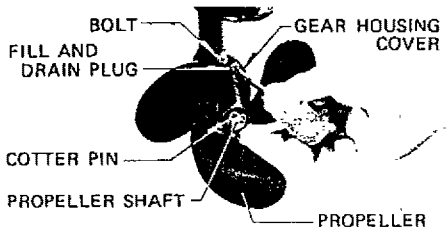

Figure 2
- a. The Gear Housing has been pre-lubricated at the factory, however, the grease level should be checked as follows using SAE 90 outboard motor grease (See Figure 2)
- (1) Prior to initial operation
- (2) After first four (4) hours of use.
- (3) Recheck after every fifty (50) hours running time.
- (4) Replace with new lubricant at the end of your outboard motor season. This is important, as it removes any water from the gear housing and prevents possible corrosion to internal parts.